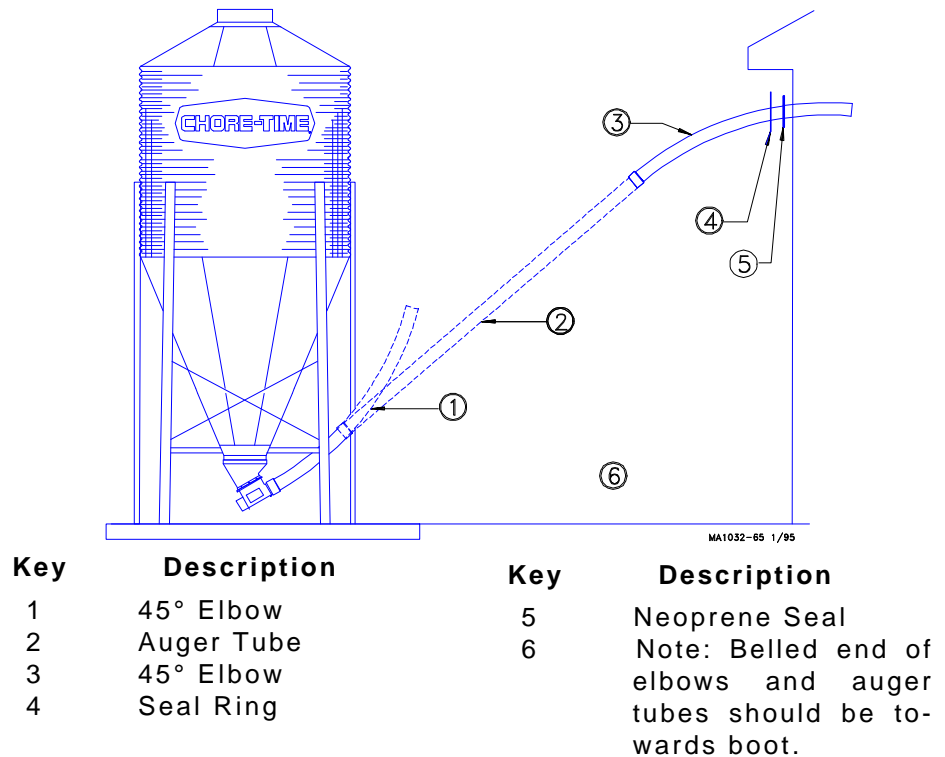

Figure 3. Elbow installation outside the building. (Side View)
2. If necessary, cut the elbow used where the auger enters the building. Slide the seal ring and neoprene seal over the straight end of the elbow and place it in the hole cut in the building, with the belled end outside the building. See Figure 3.